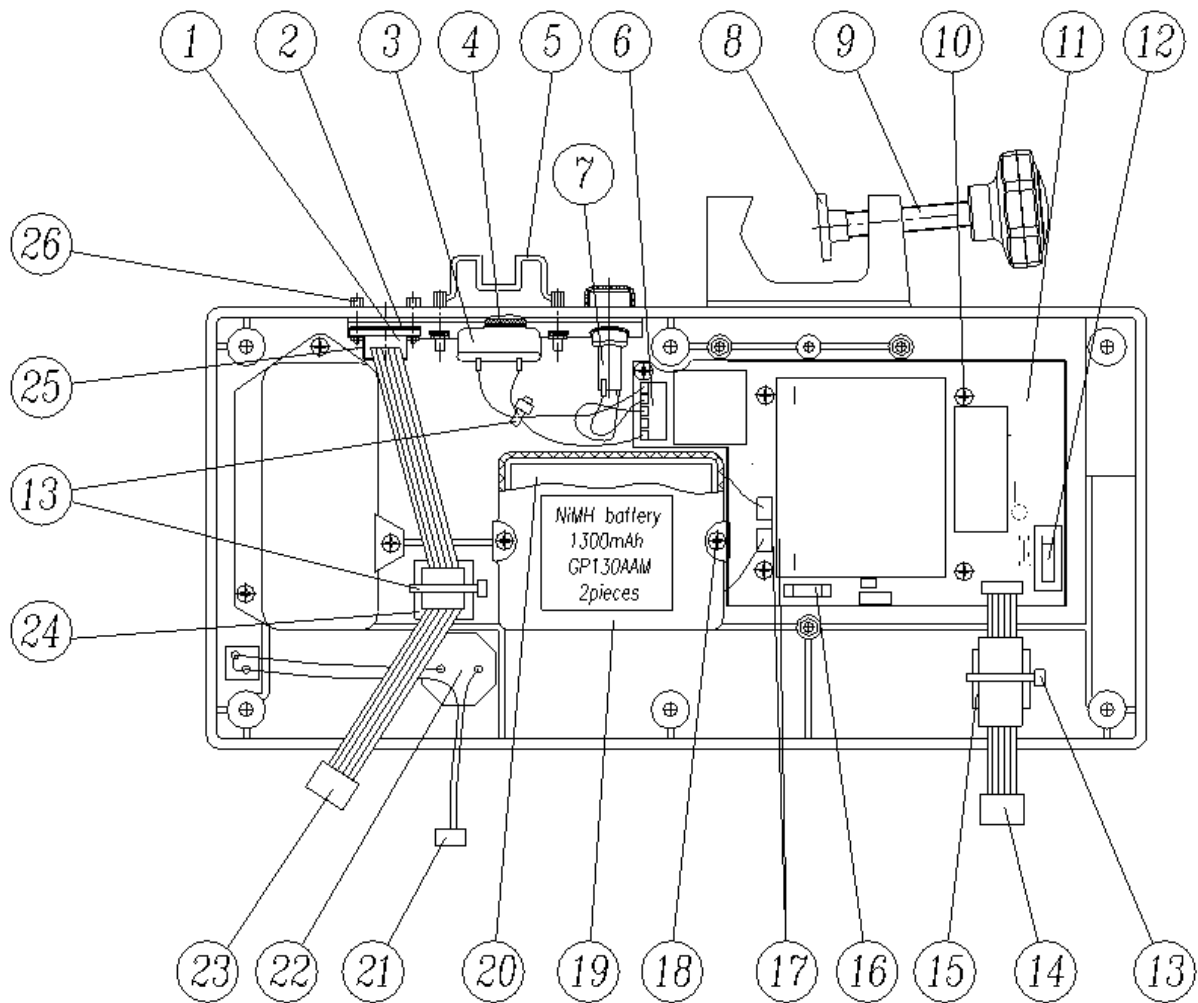

Fig. 4
◆ The syringe driver arm shall be moved to its end right hand side extreme position. Remove six screws (8) located of the pump base. Carefully lift the pump housing and disconnect the supply unit connector P4 (Fig. 4 pos. 14), buzzer connector P5 (Fig. 4 pos. 21), MFC unit connector P6 (Fig. 4 pos. 23) from the electronic board B7048.
(FIG. 4, ANNEX C)
(FIG. 4)